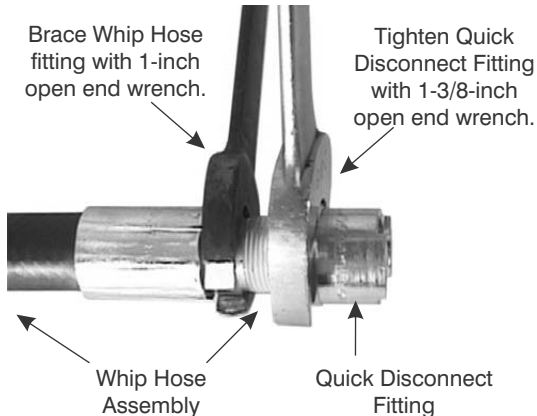

Figure 8-22. Remove Quick Disconnect From Whip Hose
6. Place the Whip Hose on the work surface. Fit a 1-3/8-inch open-end wrench across the flats of the Quick Disconnect Socket (11). Refer to Figure 8-22.
7. While holding the Quick Disconnect Socket (11) in place, use a 1-inch open-end wrench to loosen and thread the Whip Hose fitting from the Socket. Refer to Figure 8-22.